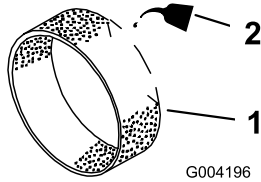

Figure 44
3. Put 1 or 2 fl oz of oil on the pre-filter (Figure 44).